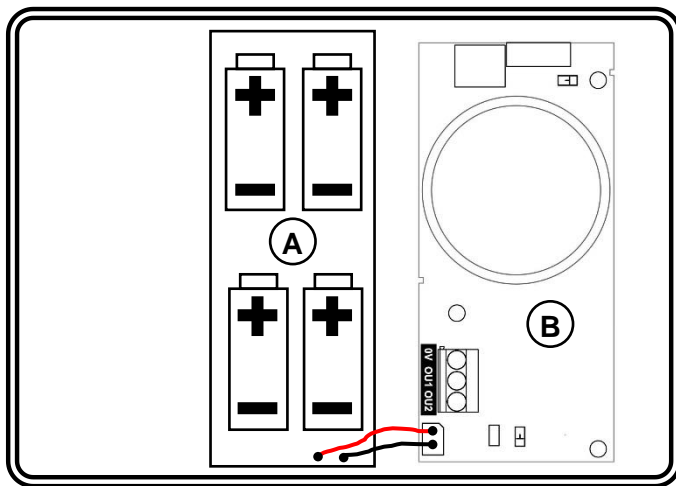
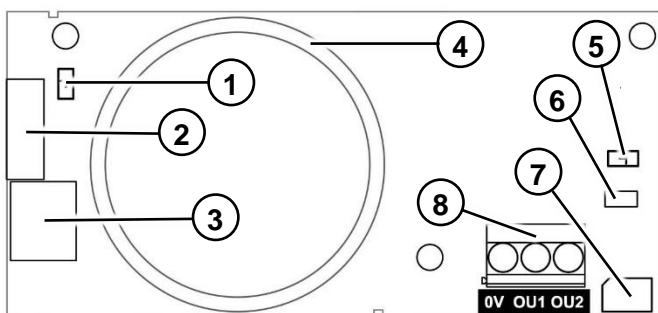

Figure 1 – Identification of parts
Figure 2 – Scheda elettronica
Insert 4 batteries in the battery holder A (Figure 1) and connect the cable to the BAT connector (Figure 2 ref. 7).
4. Press the siren **TAMPER** button (Figure 2 ref. 2)
The output is activated simultaneously with the alarm sound (Figure 2 ref. 8). The output can be set in two electric modes via the jumper JP1 (Figure 2 ref. 6). See details in the table below.